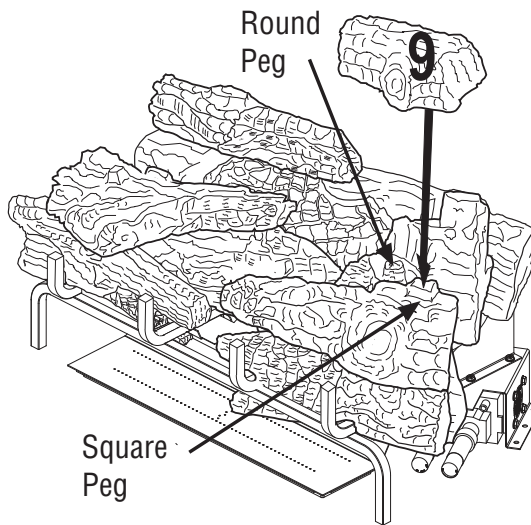

Figure 45 - Installing Log # 9
9. Place the top right log (#9) on top of the right rear chunk log (#7) and front right mid log (#8) as shown in **Figure 45**. Match the round peg on the top of the right rear chunk log (#7) with the round hole on the bottom of the top right log (#9) and square peg on the top of the front right mid log (#8) with the square hole on the bottom of the top right log (#9).